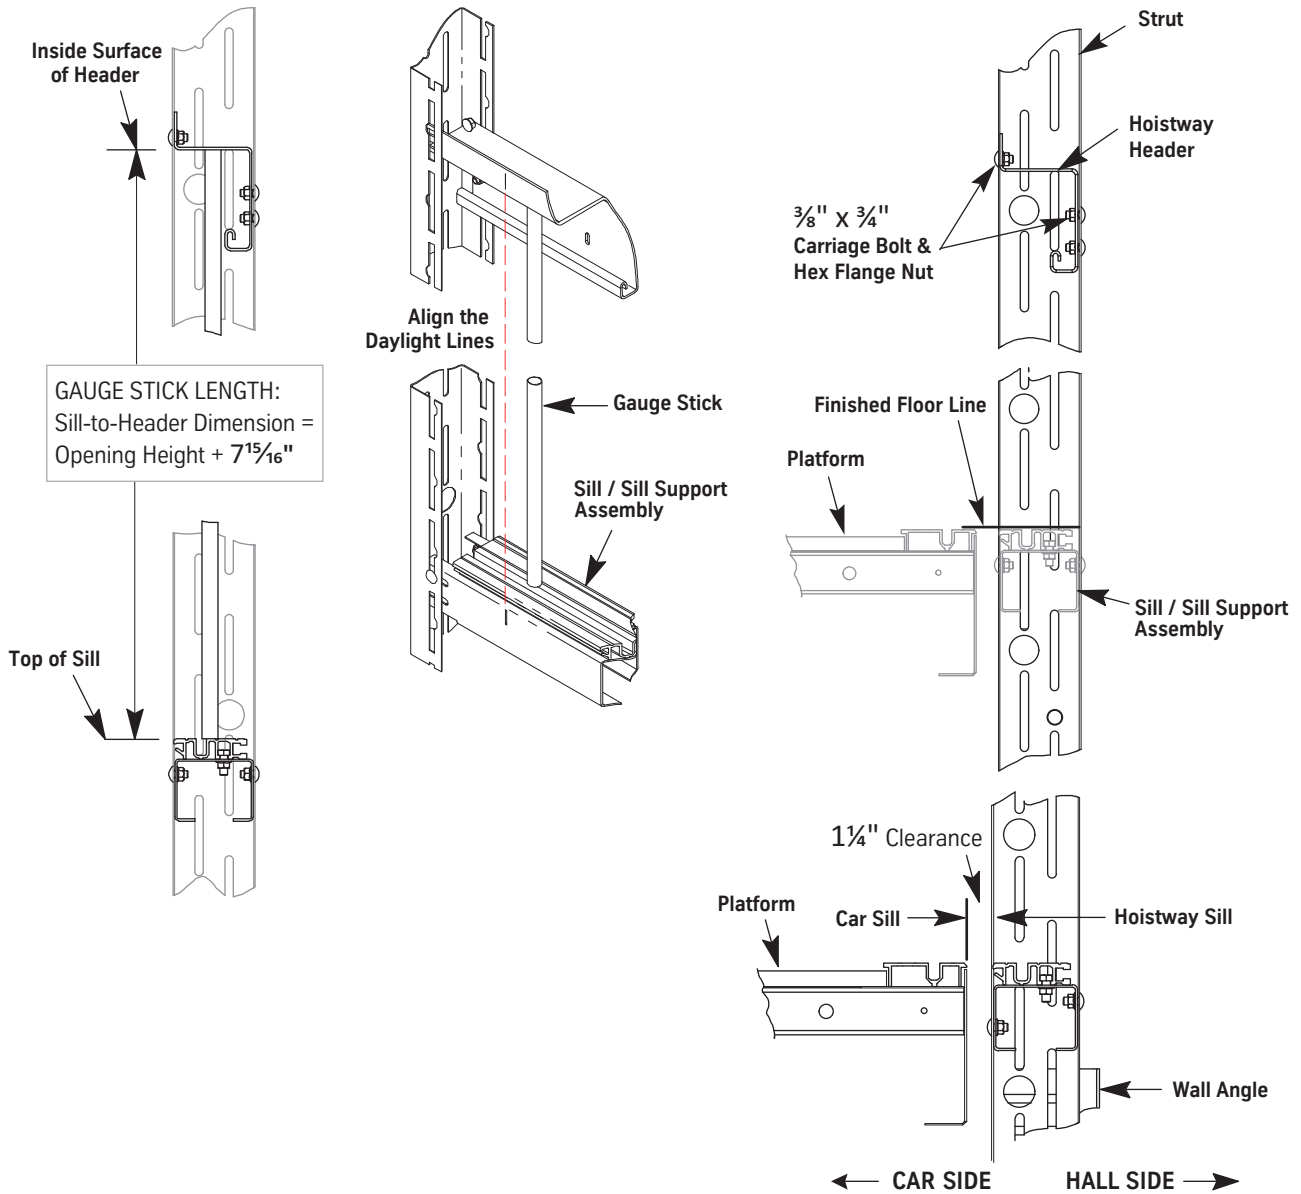

Figure 6- Install and Adjust the Hoistway Header
2. Place the gauge sticks on the sill of the landing below, one at each end of the sill. See Figure 6 on page 7-10 for all steps on this page.